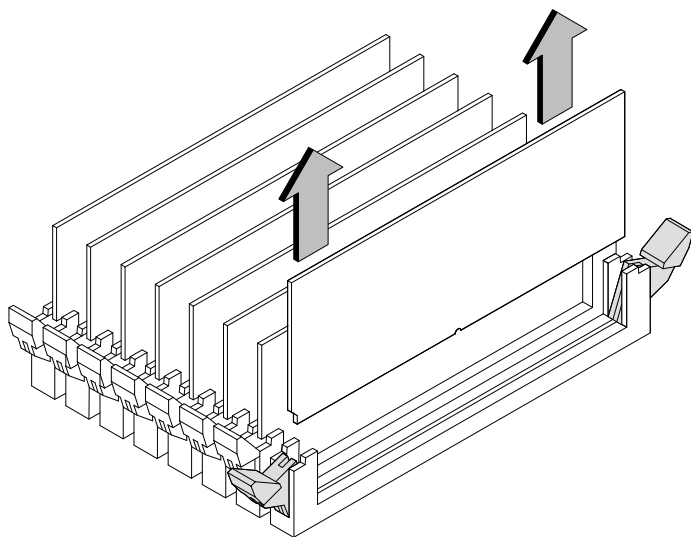

Figure 4. Removing Memory DIMMs
1. To remove a memory DIMM, push the ejector handles on the side of the DIMM. Lift the memory DIMM up and out of the connector. Place the memory DIMM on a static-free service. Figure 4 shows how to remove the memory DIMM.